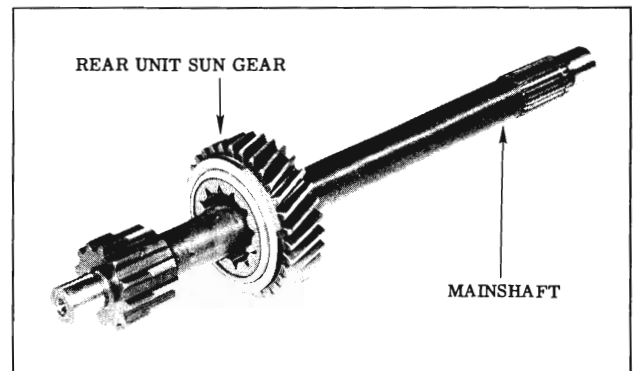

Fig. 3-104 Installing Sun Gear
25. Assemble rear unit sun gear to mainshaft, if removed, and install through rear carrier. (Fig. 3-104)